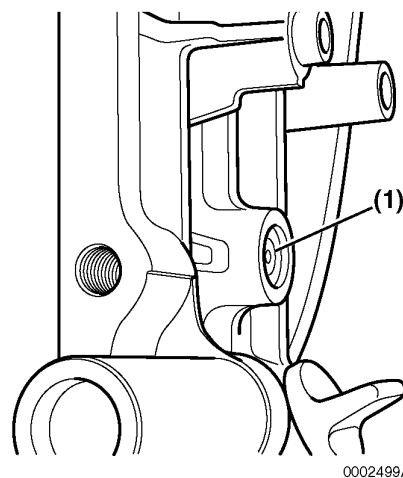

Figure 8-86
7. Carefully pry the seal (**Figure 8-86, (1)**) out of the bore.